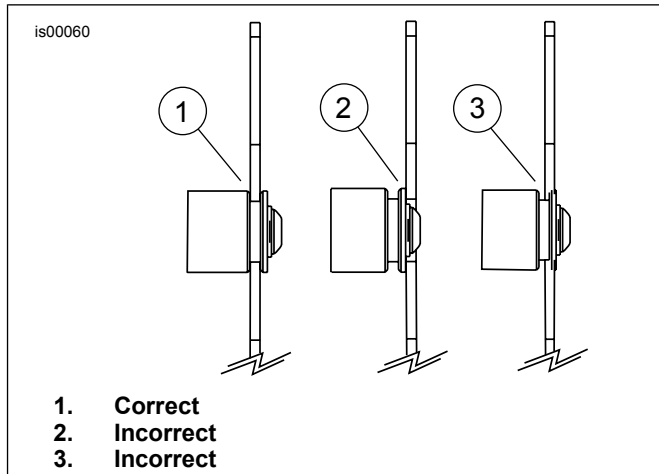

Figure 2. Upright Notch to Docking Point Engagement
2. See Figure 2. Check for correct notch engagement.
5. See Figure 2. Re-check for correct notch engagement.